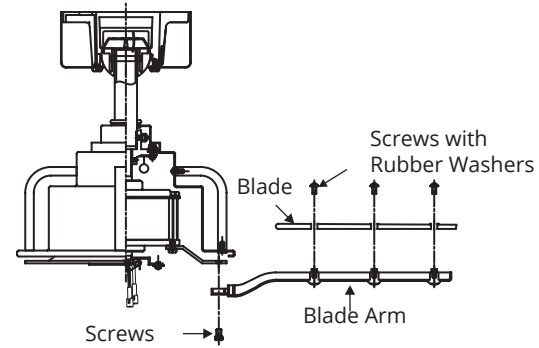

FIGURE 17
1. Attach the blade to the blade arm using the screws with rubber washers as shown in Fig. 17.
2. Fasten blade assembly to motor using the screws supplied. (Fig. 17)